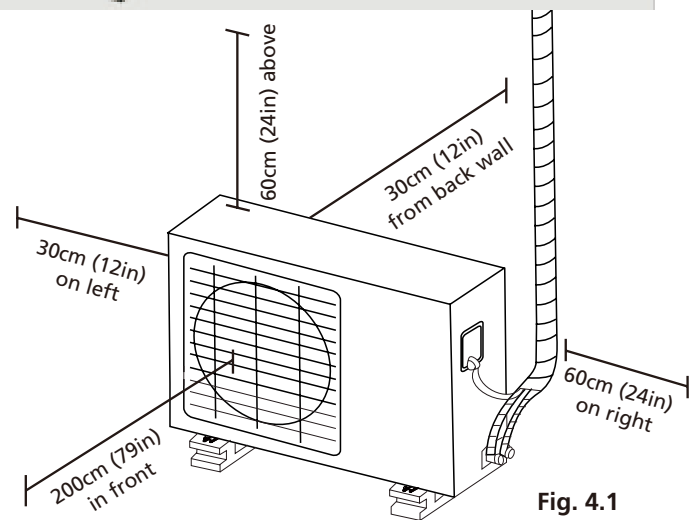

Fig. 4.1
- ☑ Meets all spatial requirements shown in Installation Space Requirements ( **Fig. 4.1** )